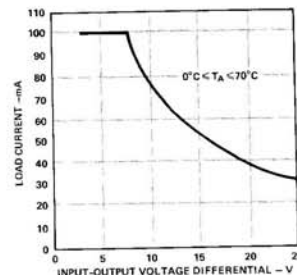

**Figure 11. Common-Mode Rejection vs. Frequency and Gain**
**Common Mode Rejection:** CMR is rated at  $\pm 10\text{V}$  CMV and  $1\text{k}\Omega$  source imbalance. The CMR improves with increasing gain. As a function of frequency, the CMR performance is enhanced by the incorporation of low pass filtering, adding to the 90dB minimum rejection ratio of the instrumentation amplifier. The effective CMR at 60Hz at the output of the filter ( $f_c = 2\text{Hz}$ ) is 140dB min. Figure 11 illustrates a typical CMR vs. Frequency and Gain.